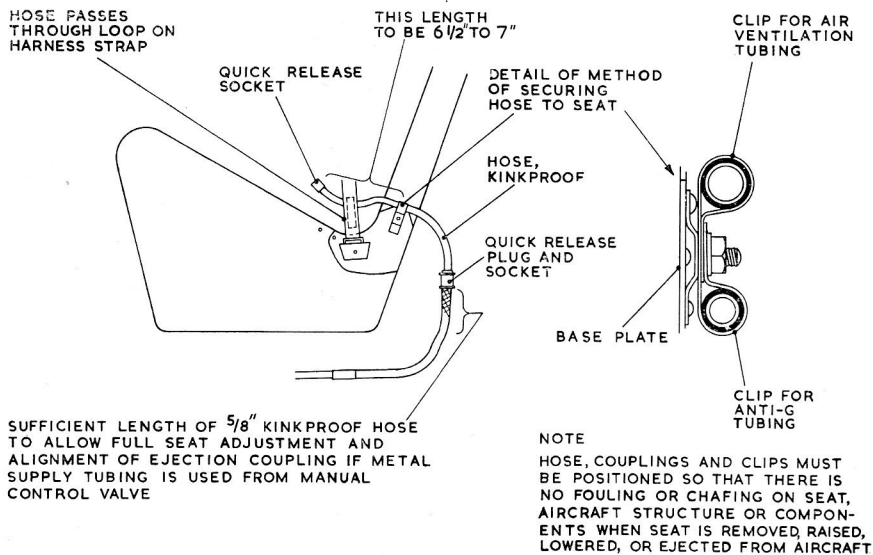

Fig. 6. Arrangement of air supply components at ejection seat
16. The suit is connected to the air supply system by two quick-release couplings (fig. 6). The first is the crew member's personal connection which he makes on entering and breaks on leaving the seat. The second is the seat to aircraft coupling which automatically breaks when the seat is